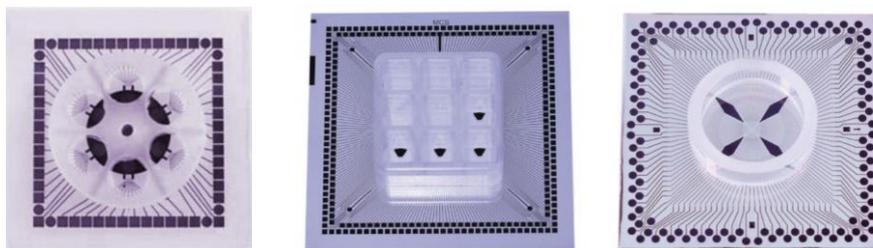

Figure 2: MEA devices from Multi Channel Systems GmbH.
4. Dispense a 8 μl droplet of iCell Cardiomyocytes cell suspension (approximately 16,000 cells) on the centre of the MEA electrodes layout and incubate MEA plate in a cell culture incubator at 37°C, for 1 hour. This procedure is flexible and suitable for all types of MEA devices, ranging from standard single-well up to multiwell plates with 6 or 9 wells. Exemplary MEA plates are reported in Figure 2.